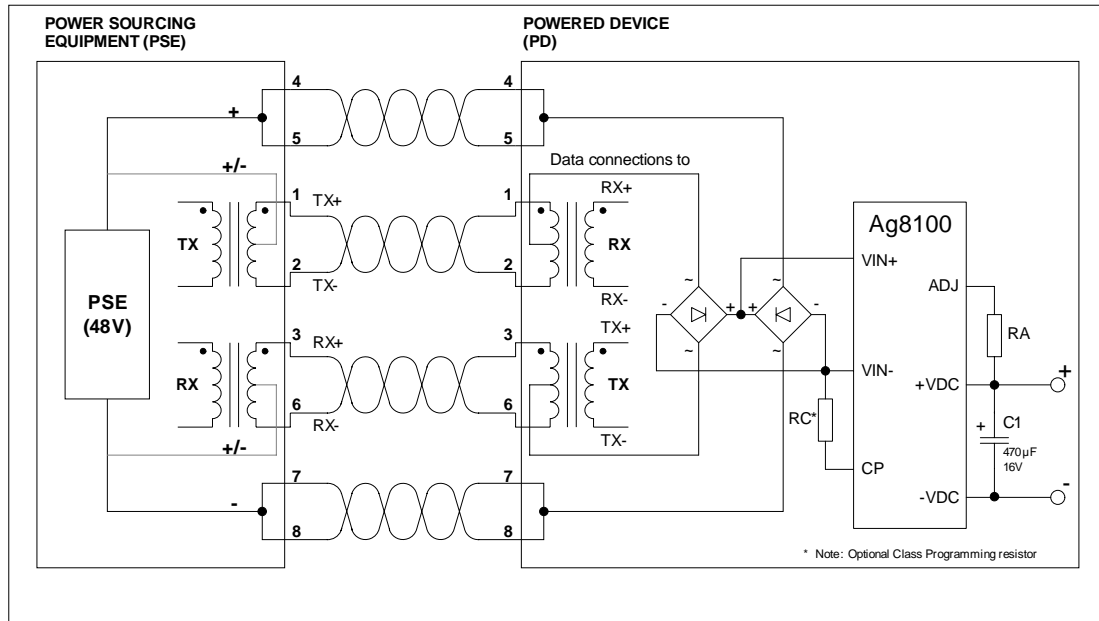

Figure 1: Typical Connection Diagram
Figure 1 shows a basic (10/100 BASE-T) block diagram for connecting Power Sourcing Equipment (PSE) to a Powered Device (PD) that uses an Ag8100 module.
Therefore one of the requirements of the PD is that it must have input polarity protection to enable it to work with both Mode A and B shown in Table 2. The Ag8100 does not have on-board input polarity protection, but this can be simply achieved by using two external bridge rectifiers as shown in Figure 1.